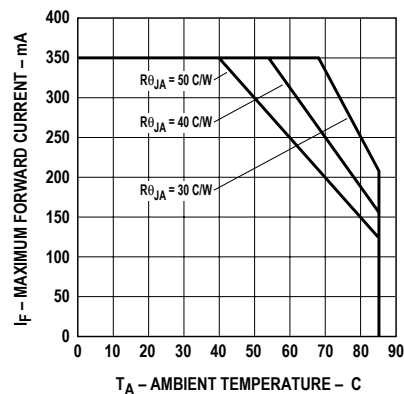

Figure 5. Maximum forward current vs. ambient temperature
- DC forward current – derate linearly based on Figure 5.